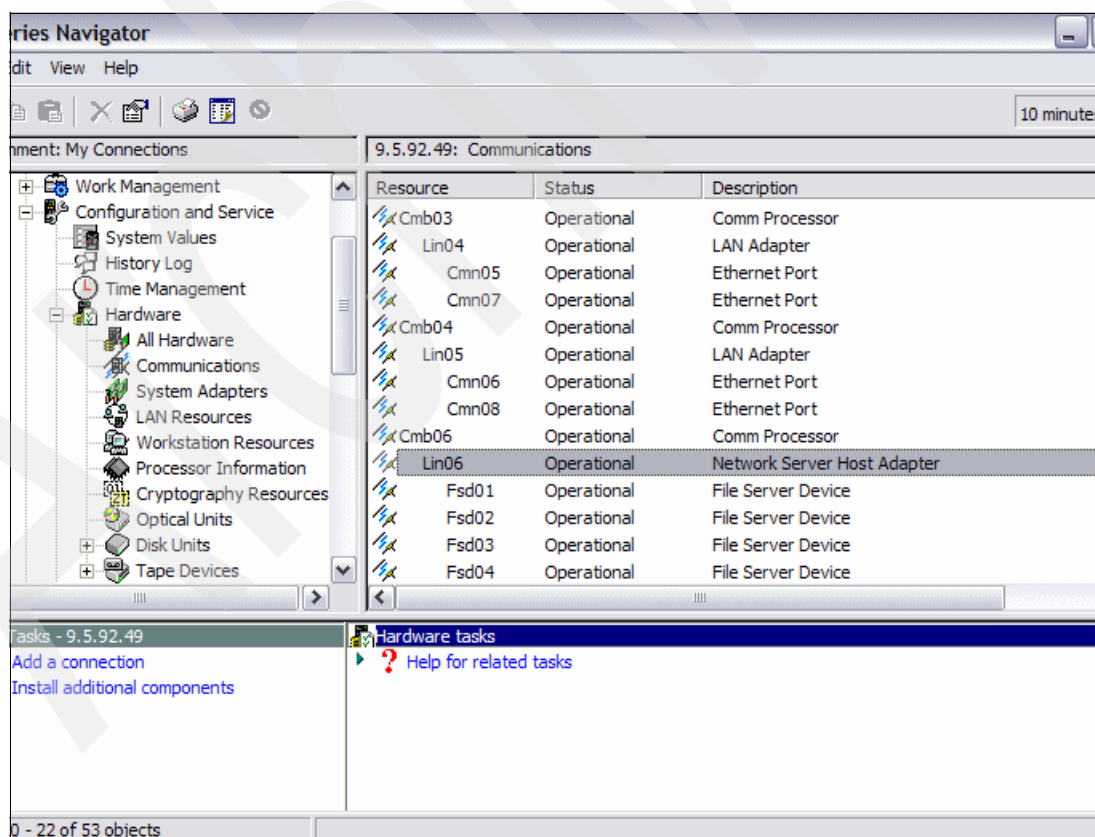

Figure 4-11 Select Network Server Host Adapter
2. Select each LINXX resource described as a Network Server Host Adapter (Figure 4-11).